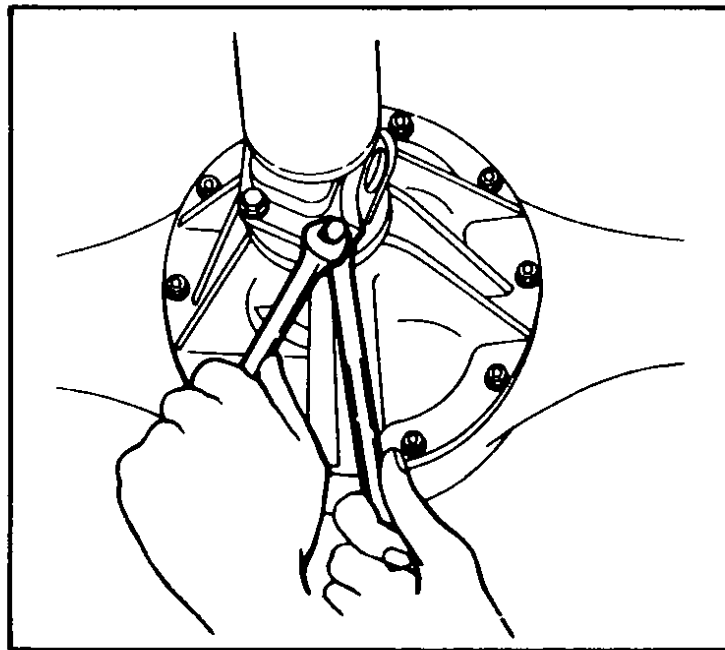

Fig. 148 Removing propeller shaft
- 14 Detach the engine rear plate rubber plug Remove the bolts securing the torque converter to the drive plate Measure distance "A" Fig 148 and mark for reference during reassembly
- 2 Remove the bolts connecting the propeller shaft to the companion flange, Fig. 148.